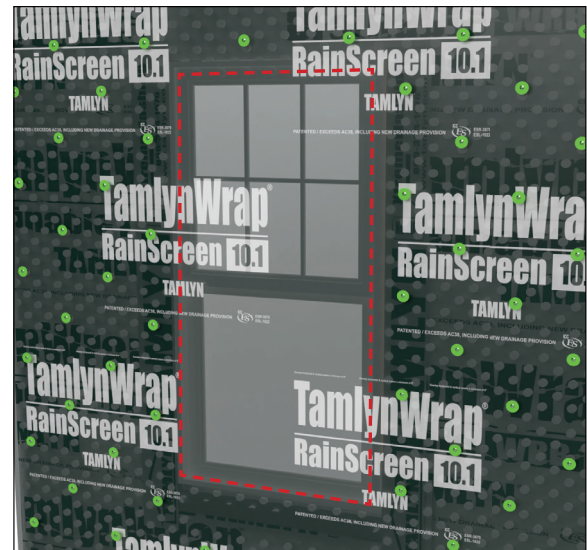

FIG 3:
- Complete installation of **TamlynWrap® RainScreen 10.1** over the existing (WRB) system as shown in **(FIG 3)**.